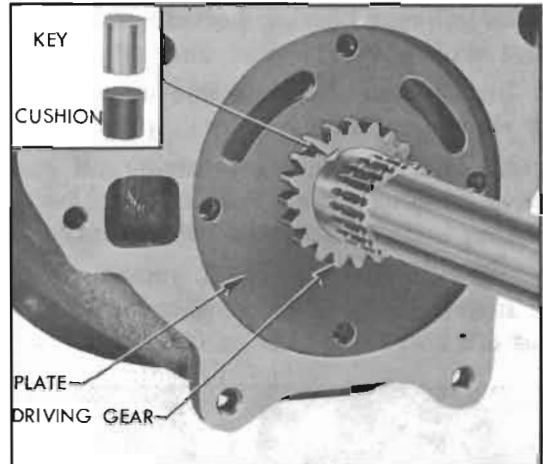

Figure 5-90—Oil Pump Driving Gear and Key Installed
2. Install oil pump drive key cushion (rubber) and drive key in output shaft, then install driving gear to engage the key. Install old gear in same position as before removal—install a new gear either way. See figure 5-90.